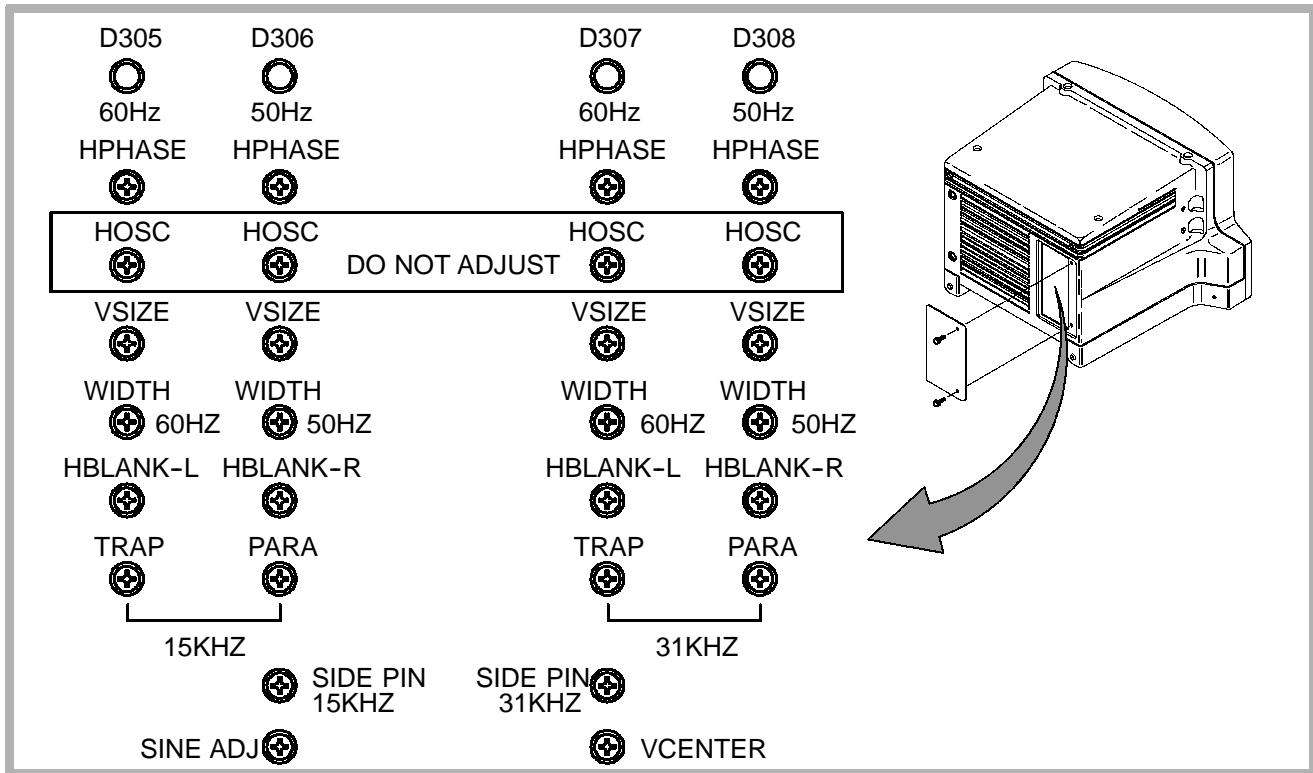

Figure 7-2. Data Ray Monitor Adjustment PCB
There are four columns of adjustments arranged vertically on the monitor adjustment PCB. The adjustment column that should be selected depends on the scan rate and the type of video input signal. An LED above each adjustment column lights to indicate the type of video input signal currently being received by the monitor. Refer to **Table 7-1** for the LED numbers for each type of video and **Figure 7-2** for the adjustment locations.
1. Remove the access cover on the rear of the monitor assembly to access the Monitor Adjustment PCB (**Figure 7-2**).